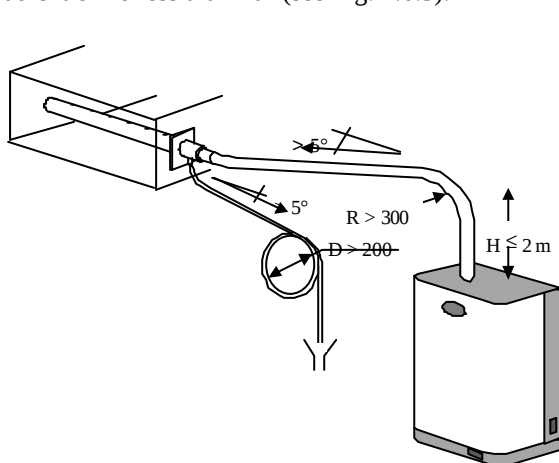

Fig. 4.6.2
1. rise upwards with a vertical section of at least 300 mm, followed by a curve with a minimum radius of 300 mm and finally a downwards section with a constant gradient of no less than 5° (see Fig. 4.6.2);
The end of the condensate pipe can be connected to the nearest drain pipe, with a minimum slope of 5° to assist correct downflow (see Fig.4.6.2).